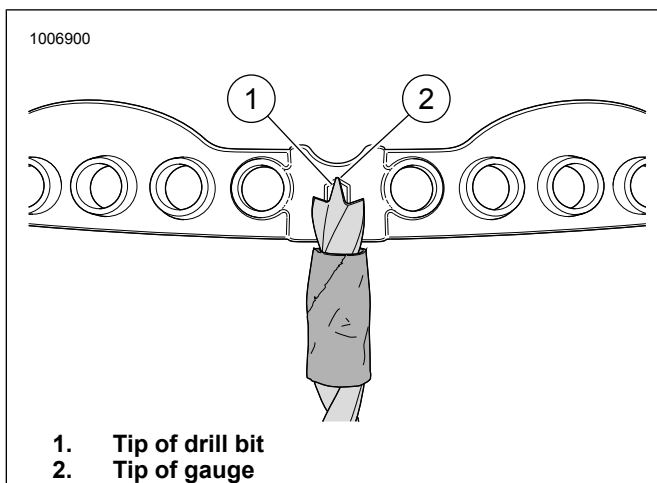

Figure 2.
6. See Figure 2. Align tip of drill bit (1) with tip of gauge (2) and wrap masking or duct tape around the flute. The tape will be used as a stop.